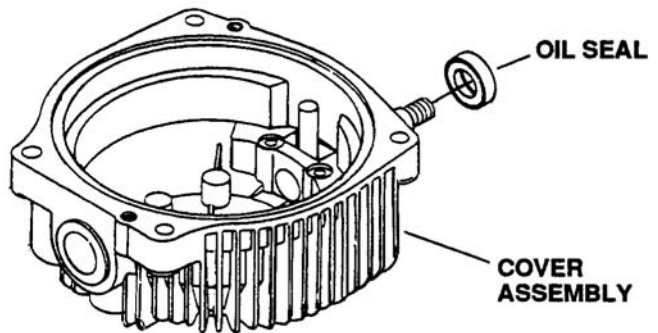

Figure 6-111. Removing Oil Seal From Cover
- e. Use a sharp, narrow edged tool to pierce the top metal part of the oil seal. Remove seal from the cover. See Figure 6-111.